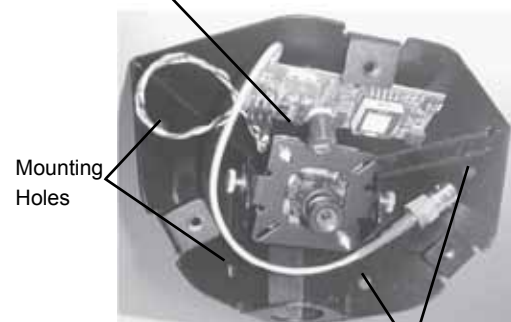

Figure 2
2. Place the back box into position and mark the four mounting holes (Figure 2).
3. If you're using the top conduit knockout (Figure 2) REMOVE THE CAMERA AND BRACKET TO PREVENT DAMAGE. If using one of the side conduit knockouts it's not necessary to remove the camera and bracket; however, use caution.